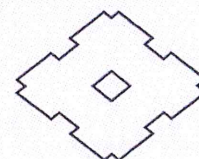

Fig. A-12
3. Remove the cooling fan cover and fan from those Speed Reducers (not motorized) equipped with a cooling fan, and stand the unit on a solid base with its high speed shaft side down. Remove the through bolts for the high speed end shield, ring gear housing, and lift the slow speed side, thus separating the unit into two parts so that the inner mechanism can be removed (Figs. A-12 ~ A-17).
5. To lift the slow speed side, attach an eyebolt to the tapped hole on the end of the slow speed shaft and use a hoist or chain block (Fig. A-12).
9. Put the slow speed shaft pins into the rollers (Fig. A-12). The above instructions are for **eccentric bearings with retainer**. Following are the instructions suggested for **roller bearings without retainer**.